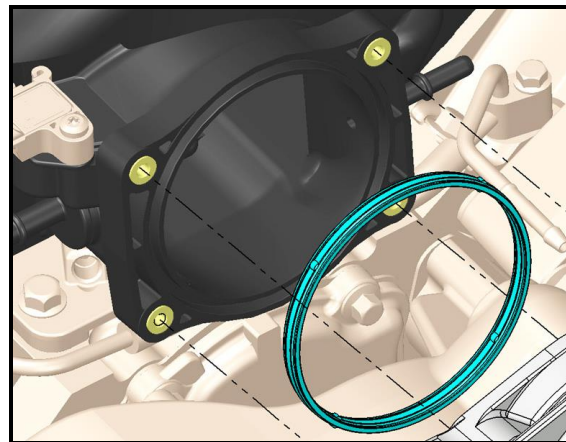

Figure 3
8. In most cases, the intake will have an o-ring seal (**Figure 3**). Use this seal between the intake and throttle body when possible. A standard gasket has been provided for use if: